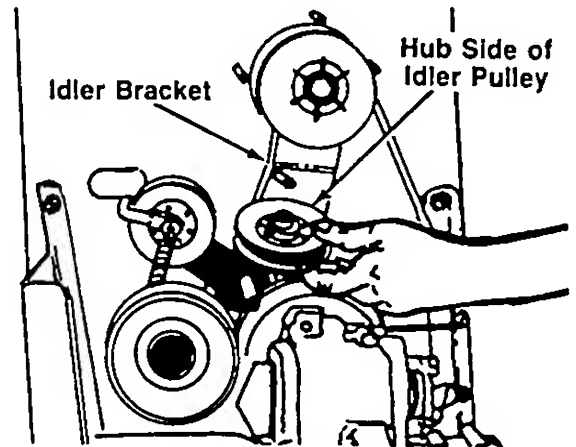

FIGURE 23.
10. Upon reassembly of idler pulley, be certain the hub side of idler goes against the idler bracket. See figure 23.